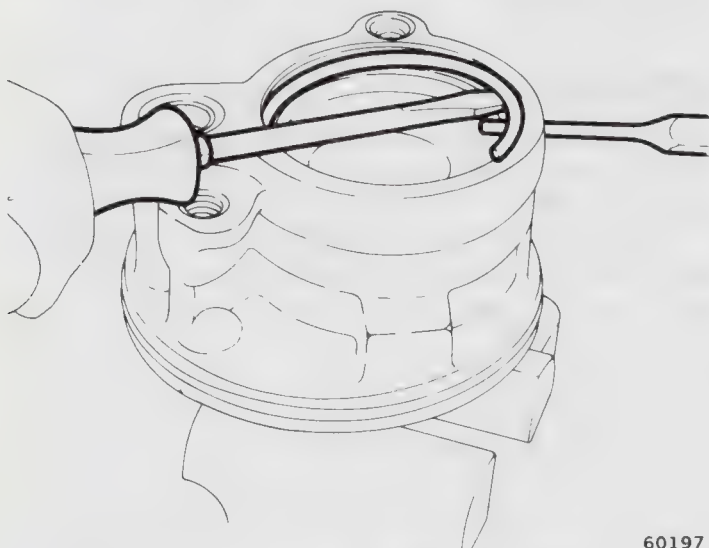

Fig. 2K-117 End Plate Retaining Ring Removal
(7) Remove reservoir by rocking it lightly back and forth to unseat O-ring.
(8) Remove reservoir O-ring.
(9) Remove mounting stud and union seals from counterbored spaces in housing and discard seals.
(10) Remove end plate retaining ring. Insert small punch in 1/8-inch (3.1 mm) diameter hole in housing opposite flow control valve hole, compress retaining ring using punch, and remove ring by inserting screwdriver under ring and twisting screwdriver (fig. 2K-11).